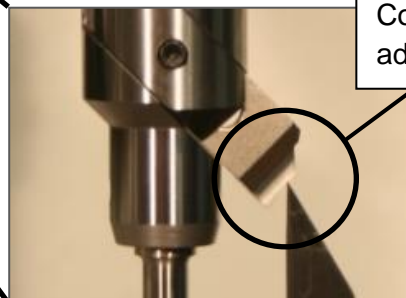

Fig. 16
12. Unlock the clamping lever handle and place the pivot arm at the upper position by means of the adjusting screw and the stopper ring (the stopper ring is below the pivot arm and is fixed by a clamping lever). Loosen the star grip until the spindle is free moving. Fig. 16